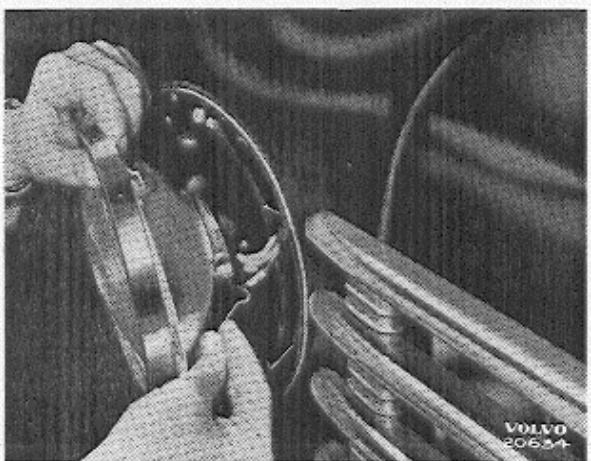

Fig. 14.
3. Remove the spring holding the bulb-holder to the headlight unit (fig. 14). Separate the unit from the holder and remove the bulbs.